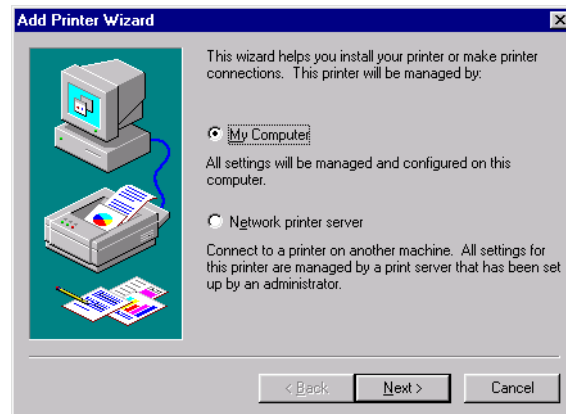

Figure B-9: Adding a Printer
The Add Printer Wizard opens (Figure B-9). The dialog box offers the option to add a local printer (My Computer) or a remote printer (Network printer server).
1. Select the My Computer option, then click the Next button (Figure B-9).